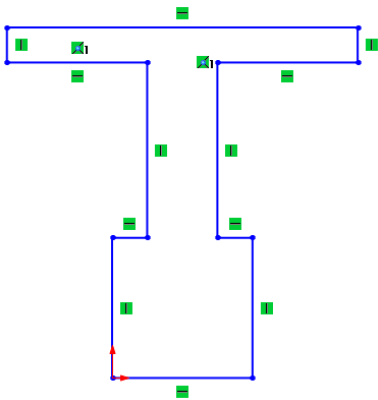

Figure 2-61 Final sketch for Tutorial 1
- 16. Move the line cursor vertically downward to the start point of the first line. Click when an orange circle is displayed; the final sketch for Tutorial 1 is created, as shown in Figure 2-61.
In Figure 2-61, the display of relations is turned on. To turn off the display of relations, choose the **View Sketch Relations** button from the **Hide/Show Items** flyout in the **View (Head-Up)** toolbar.